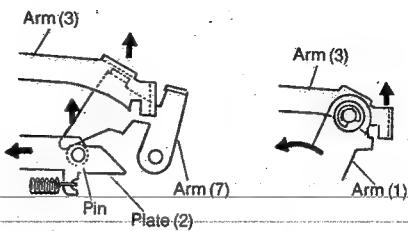

Fig. 14
4. Leftward movement of Plate (2) causes the pin called by Plate (2) to push up Arm (7), so that the locking of Arm (3) with the notched part of Arm (1) is released (see Fig. 14).